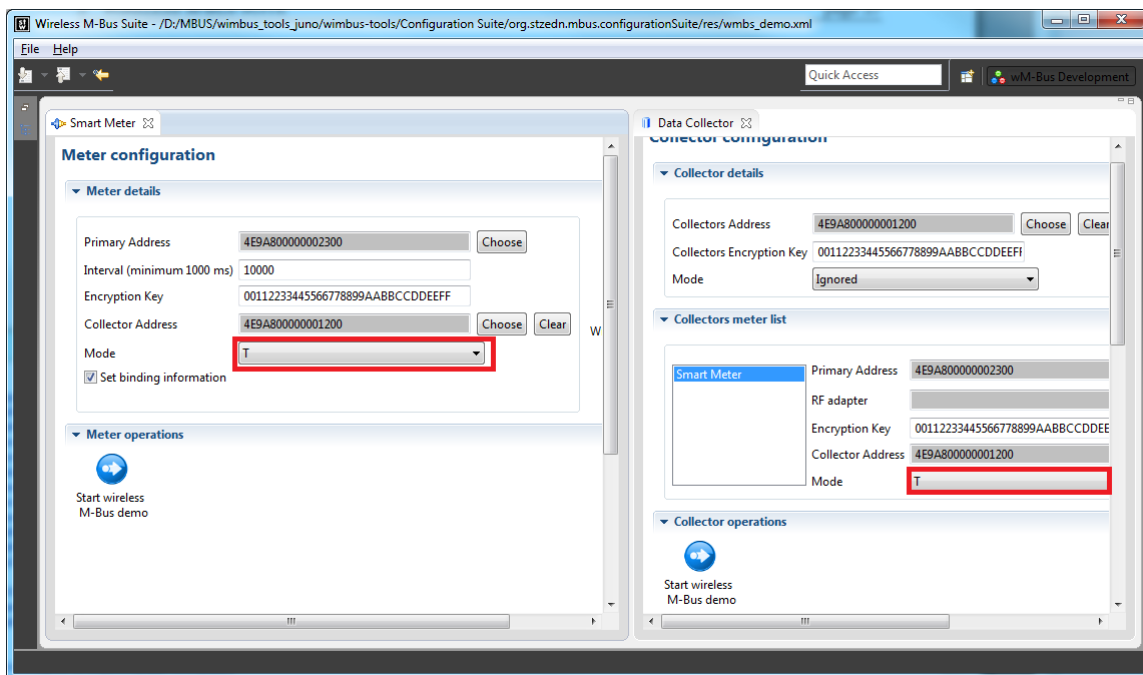

Figure 38: Collector C and Meter T
The selection box can be ignored for modes S and T, as well as for a mode C meter device. If a C collector shall be used with a T meter, please set the meter to mode T (as shown in figure 38). The reason is that the collector needs the information of the supported channels of the meter. Otherwise the collector will only be able to receive packets of the meter (RX), but is not able to send packets to the meter (TX).